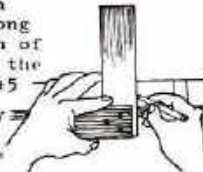

Fig. 446. SQUARING THE MORITSE LINE
2. Clamp them together temporary with the face sides touching each other and the face edges upwards. Mark the over-all height of the door and square lines across both stiles. Note that a waste allowance is made on both ends to minimise any tendency for the wood to split when being mortised. Fig. 446